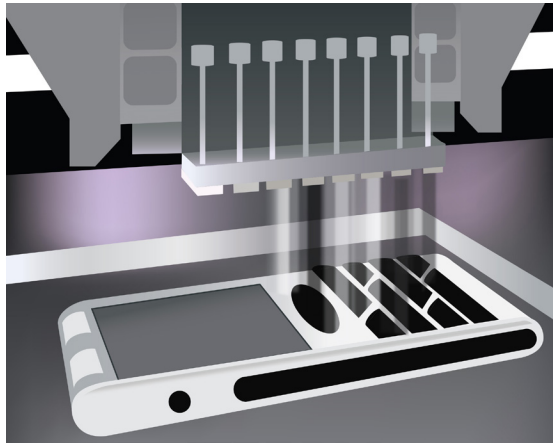

Figure 2: PolyJet technology process.
PolyJet is a powerful 3D printing technology that produces smooth, accurate parts, prototypes and tooling. With microscopic layer resolution and accuracy down to 0.1 mm, it can produce thin walls and complex geometries. During pre-processing, build preparation software automatically calculates the placement of photopolymers and support material from a 3D CAD file. During production, a carriage with four or more print heads and ultraviolet (UV) lamps traverses the work space, depositing tiny droplets of photopolymers, materials that solidify when exposed to UV light. Fine layers accumulate on the build tray to create one, or several, precise models or parts. Where overhangs or complex shapes require support, the 3D printer jets a removable support material. After printing a thin layer of material, the process repeats until a complete 3D object is formed. Support material is easily removed by hand, with water or in a solution bath. Models and parts are ready to handle and use right out of the 3D printer, with no post-curing needed (Figure 2). Certainly, employing both FDM and PolyJet printers is an option. But in most cases, one technology is better suited to your product needs than the other. A comparison and contrast of existing systems, operations, part characteristics and material options is a good place to start to determine how to best serve your business needs.